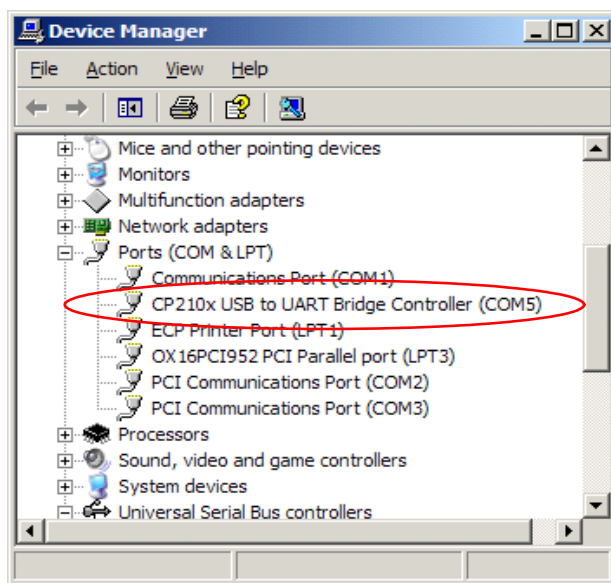

Figure 12. COM Port in Device Manager
2. To connect to the board, the COM port designated to compass device must be specified. To find the correct COM port, open the PC's "Device Manager" window. Expand the "Ports (COM & LPT)" section. Find the COM port assigned to "CP210x USB to UART Bridge Controller". An example is shown in Figure 12.